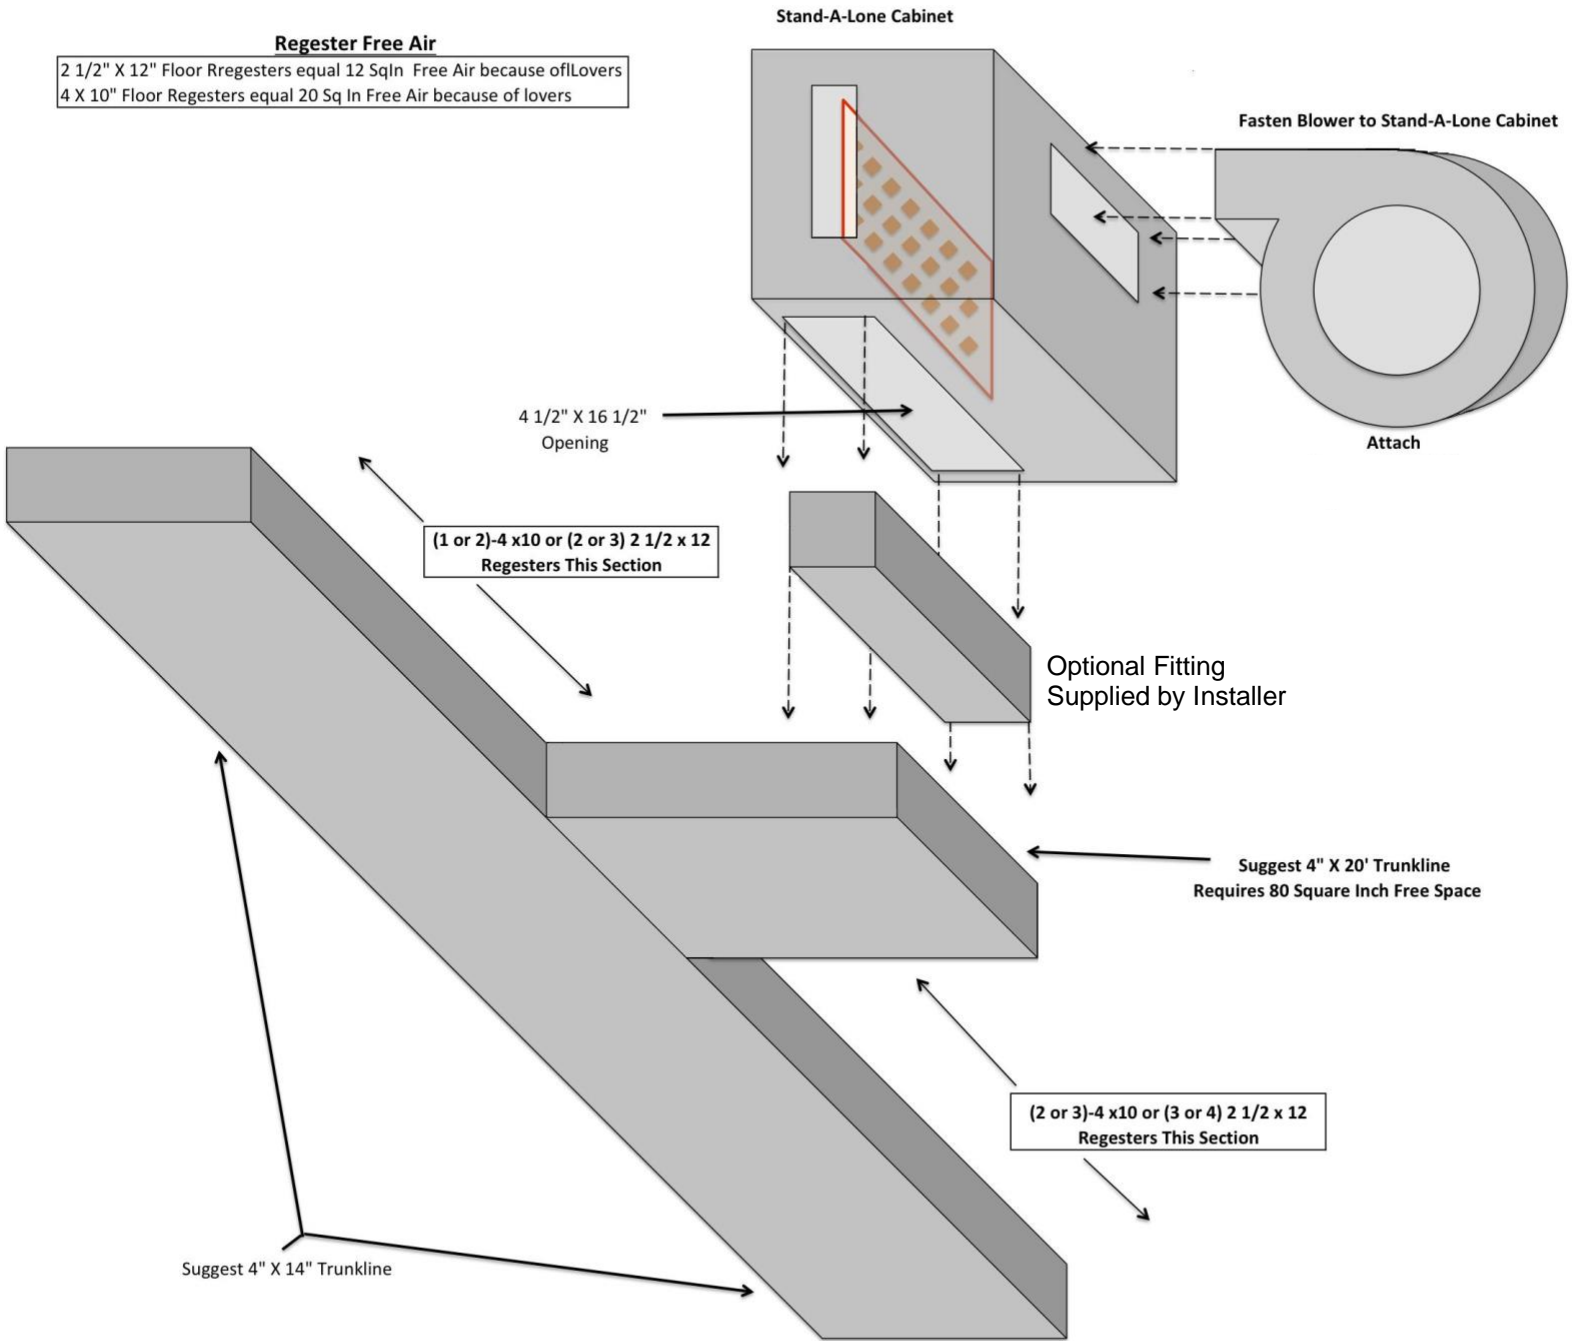

Figure 8
1. Measure a 4  $\frac{3}{4}$ " X 16  $\frac{3}{4}$ " section on the floor that aligns with the opening in the bottom of the Stand-A-Lone Cabinet and a hole in floor to access furnace plenum (see figure 8).